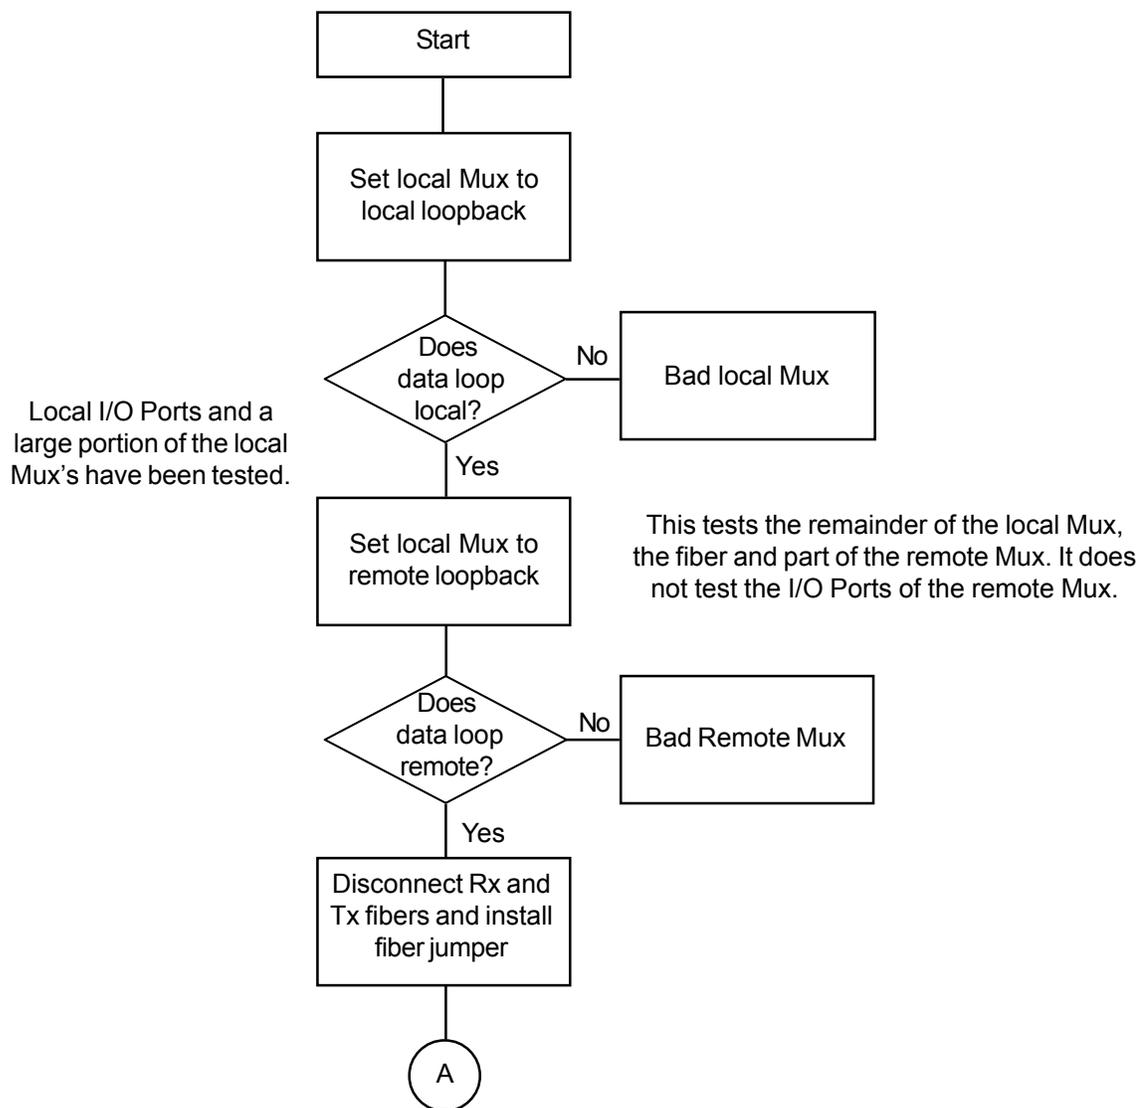

Figure 5-1a
Typical symptoms that may be observed with I/O cabling or data source malfunctions are data errors on a single channel. It is unlikely that multi-channel failures could be caused by cabling or data. In the event that multi-channel failures should occur, refer to the troubleshooting flowchart Figure 5-1a, 5-1b, and 5-1c, to help isolate the problem. Refer to Chapter 2 for the setting of loopbacks, and Chapter 4 for setting loopbacks via the NMS on managed systems.
3. If the failures follow the suspected bad channel cable, the errors are caused by the I/O cabling or the data sources. The exact cause of the failure can be found by further substitution of the cables and data sources. If the failures do not follow the suspected bad channel, the failure is caused by the multiplexers. If the multiplexers are identified as the cause of the failures, refer to the troubleshooting flowchart, Figure 5-1a, 5-1b and 5-1c, to determine the defective component.